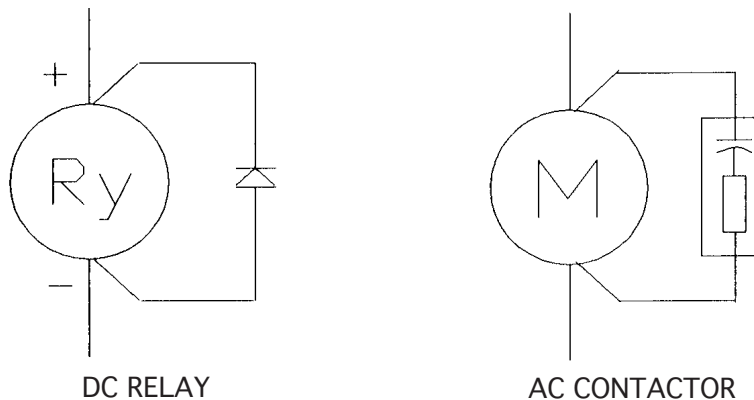

Figure 4-2. CONNECTION OF SURGE SUPPRESSION DEVICES
- See Figure 4-2, and 4-4 for wiring connections.